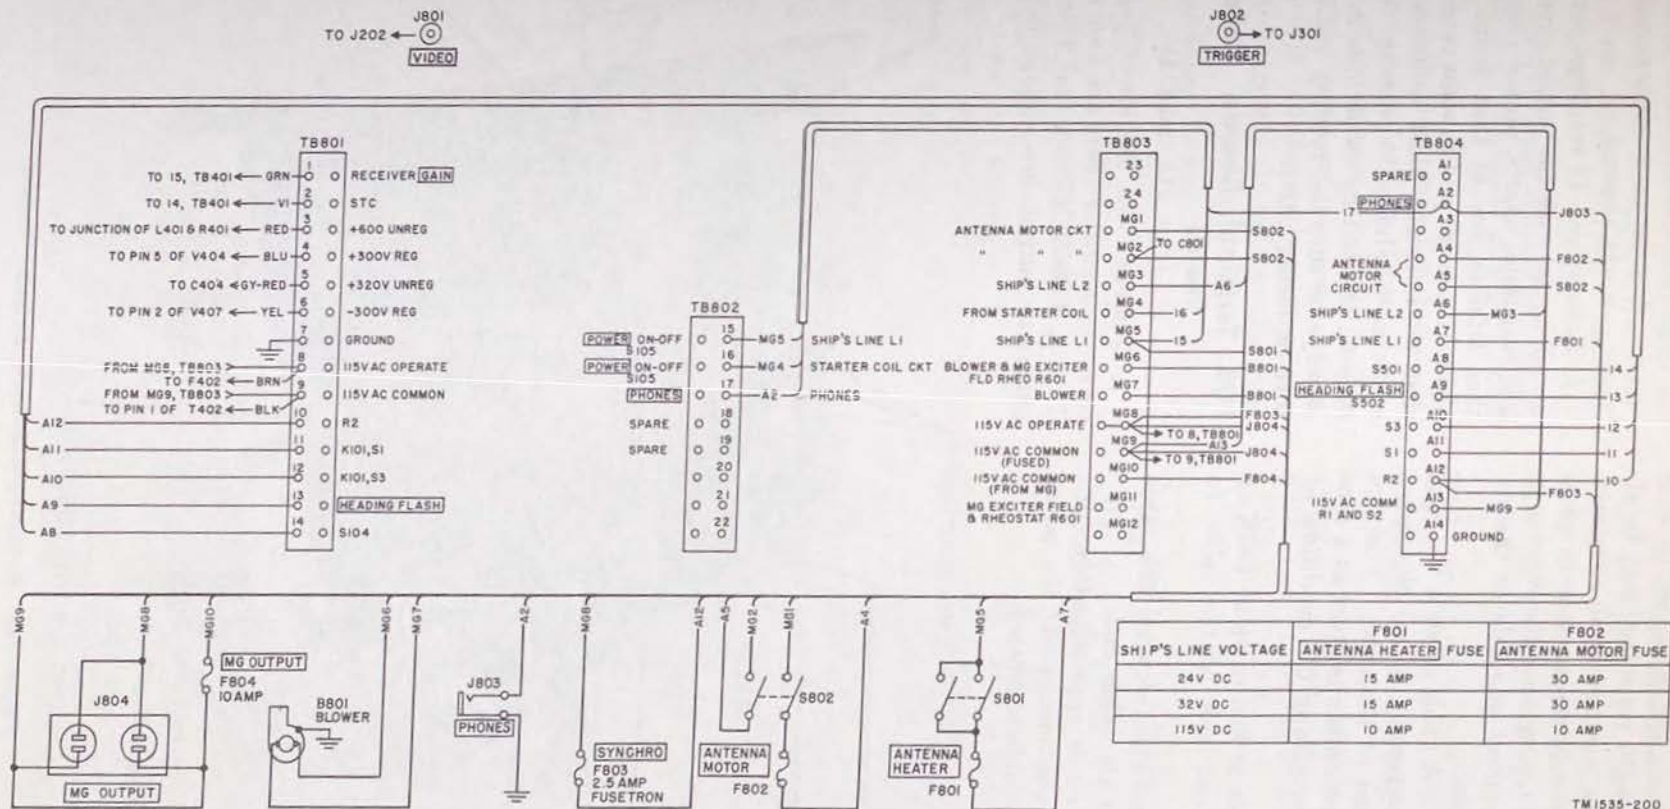

Figure 113. Receiver-transmitter, terminal boards and convenience panel, schematic.
(figs. 113 and 114)
*b. Tables.* The following tables list the terminals, the voltage measured between the terminals, and a description of the voltage. Refer to figures 113 and 219 for the cable connections between these terminal boards and the components of the radar set. All voltages are dc unless otherwise stated.
(1) Terminal board TB801.